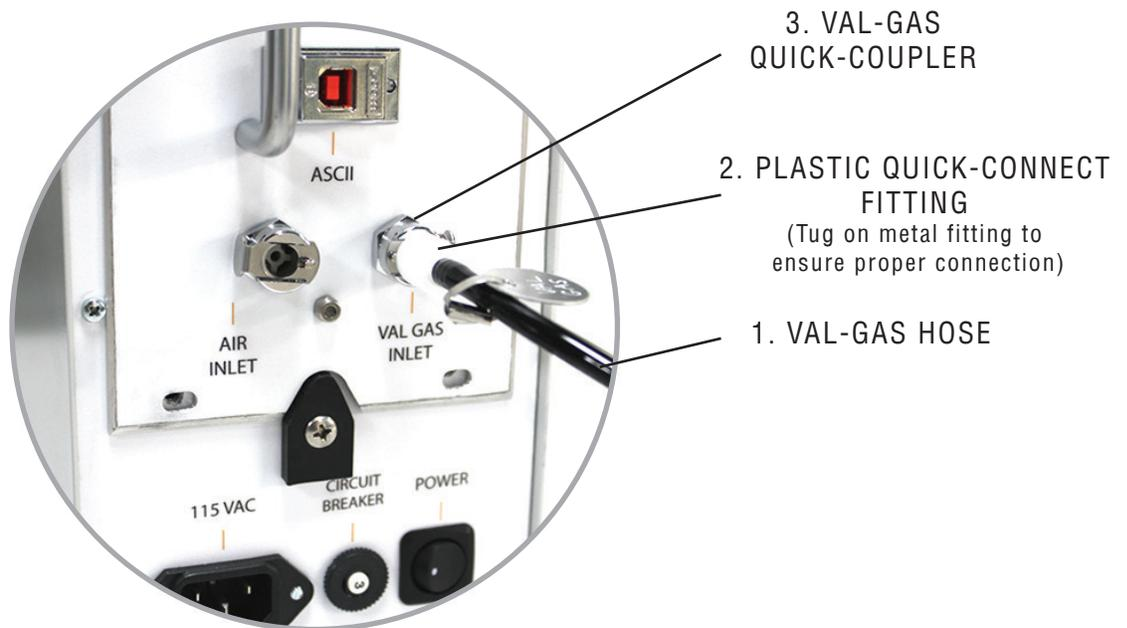

Figure 6: Expanded view of the VAL-GAS Inlet connection to ensure proper connection
One end of the Val-Gas hose (1) is equipped with a plastic quick-connect fitting (2). This end of the hose is labeled with a metal tag that reads “VAL-GAS”. Connect this fitting to the Val-Gas quick-coupler (3) on the Lab On Locale 365. Ensure it clicks into place. (Figure 6)